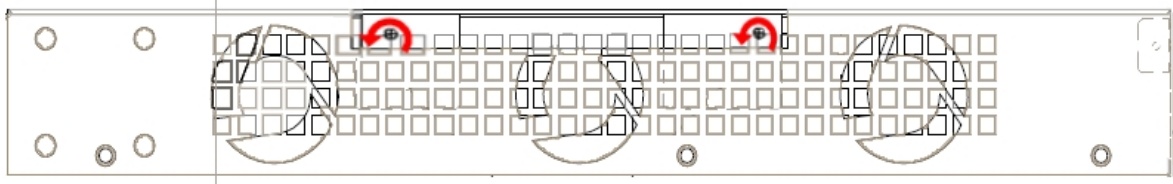

Fig. 9: Remove the flap's screws from the top panel
cards. Please see Fig. 9 on page 10.
- (1) Switch off the device and remove the cables, as described in section *Disconnecting* on page 19.
- (2) Remove the device from the workplace and place it in a stable, safe location where it can be easily accessed and handled.
- (3) Remove the screws from the side panel in order to be able to dismantle the flap that gives access to the expansion cards. Please see *Fig. 9* on page 10.
- (4) Once the screws have been removed, slide the flap and lift it (making sure no grooves attach the flap to the top panel) to remove it. Place it in a safe location.
- (5) Find the place where the expansion board needs to be located. This slot has a set of elevated connectors with gold contacts and a pair of standoffs.